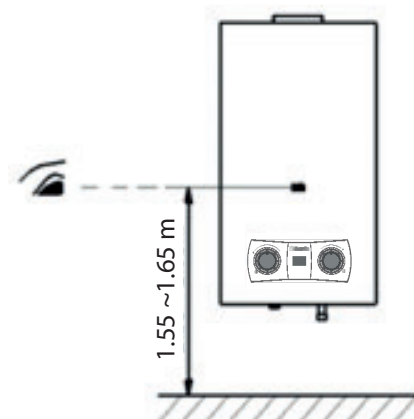
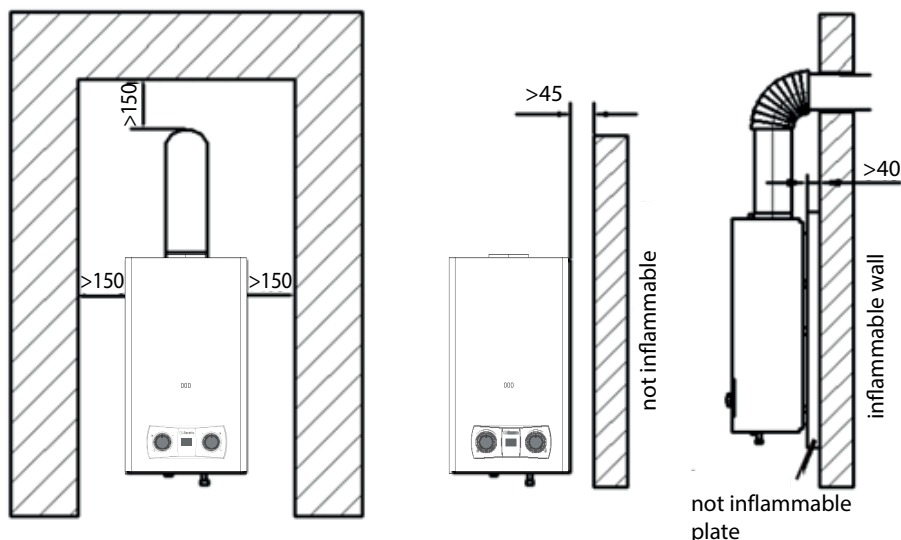

Fig.8
Fig.9
- The flame-view window of the appliance shall be at the level of eyes about 1.55m-1.65m above the floor. (Fig.8), which is ergonomic for flame checking. The appliance must keep certain distances from nearby objects whether inflammable or flame retardant in case of fire accidents (Fig.9).